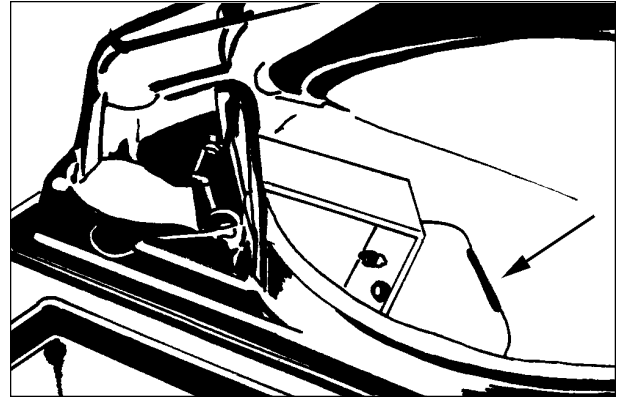

Figure 1
**The Float Shut-Off** See figure 1